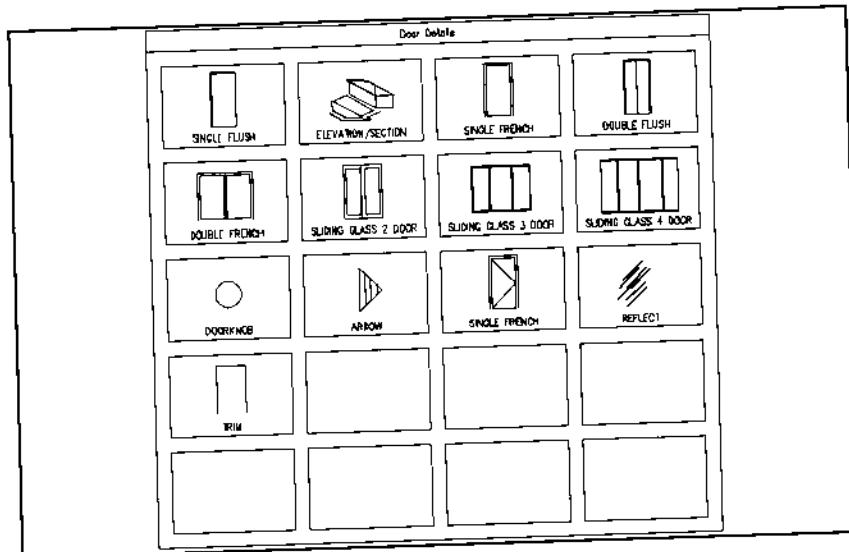

Figure 8.
3. Icon menus to select elevation and section details for Doors, Plumbing, Windows, People, and Trees are shown in Figures 8 through 13.
1. To insert a double flush door, hinge mark and doorknob, select the appropriate details from the Door Details icon menu shown in Figure 8 under the Elevation/Section menu.